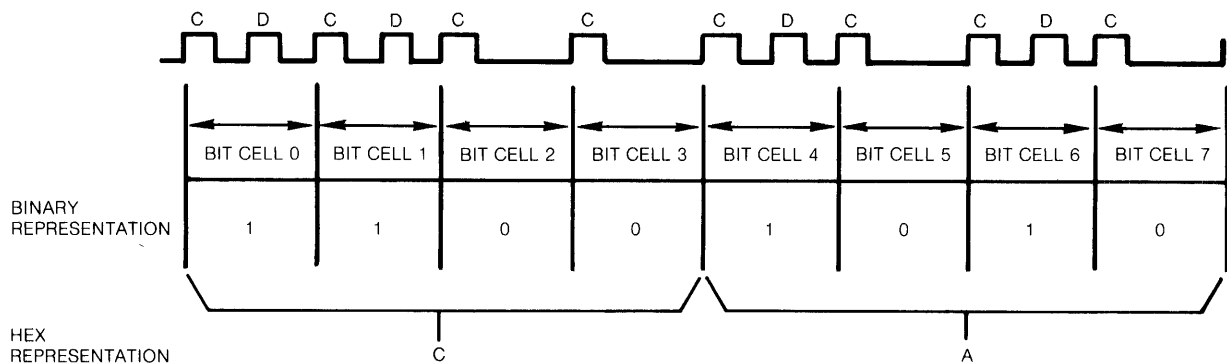

FIGURE 26. BYTE
1.4.1 The SA850/851 drive uses the double-frequency (2F) horizontal non return to zero (NRZI) method of recording. Double frequency is the term given to the recording system that inserts a clock bit at the beginning of each bit cell time thereby doubling the frequency of recorded bits. This clock bit, as well as the data bit, are provided by the using system. See Figure 26.